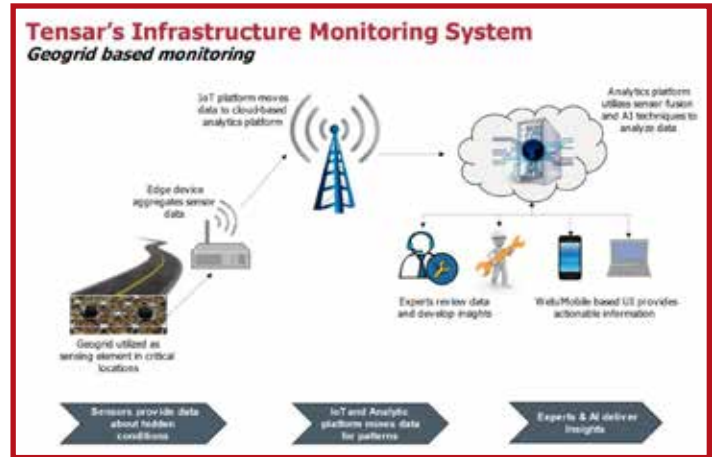

Figure 1- Infrastructure monitoring platform
The Geogrids contain sensors that use a unique technology to record the force applied as traffic moves above. The information is then sent via a wireless network to a monitoring platform which analyzes the data and provides insights using sensor fusion and Artificial Intelligence (AI) (Figure 1). These insights include information about the condition of the road structure that can then be used to make maintenance decisions.